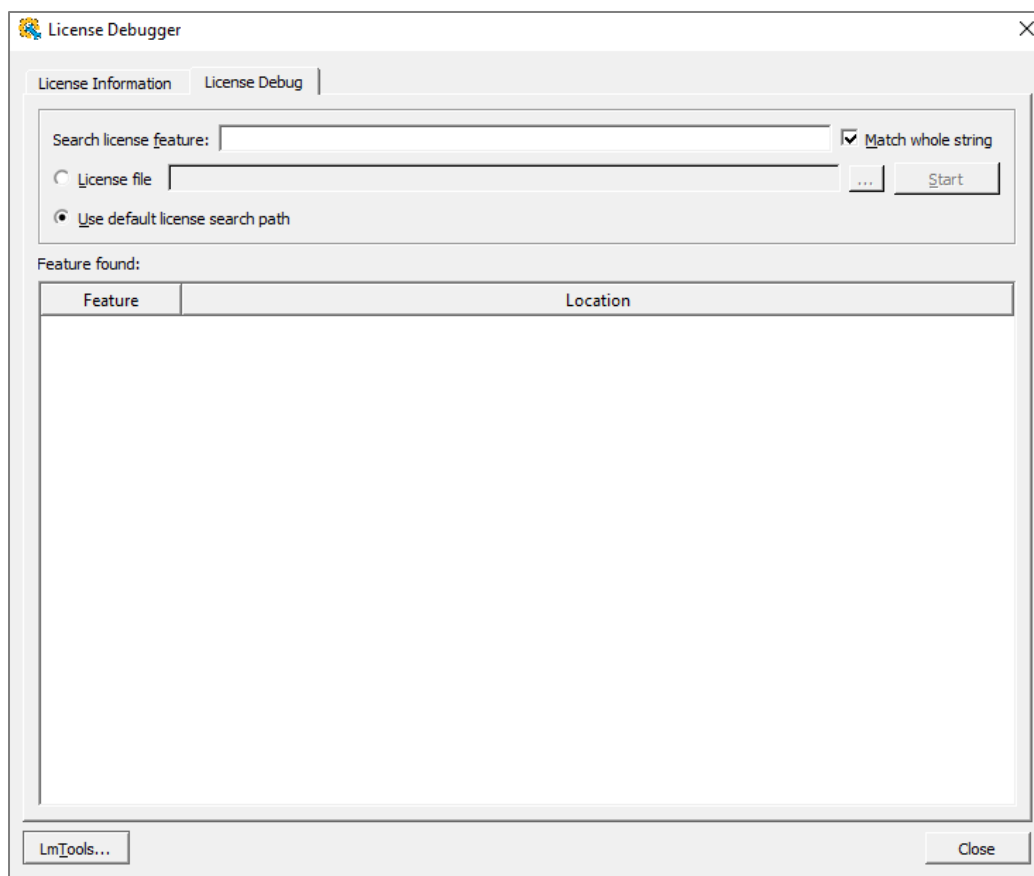

Figure 2.146. License Debugger Tool – License Debug
2. Click the License Debug tab (Figure 2.146).